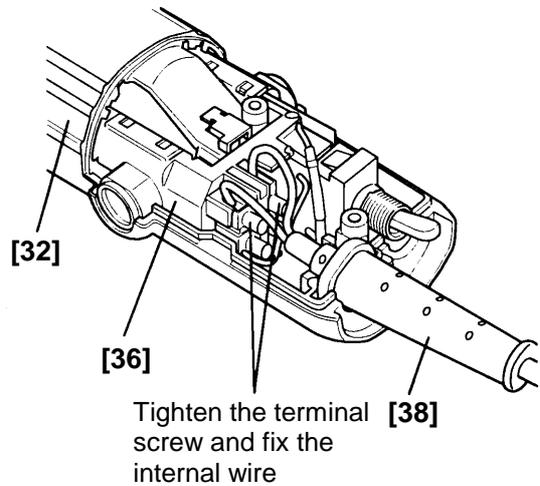

Fig. 8
- ② On completion of assembly, fix the Stator [11] into the Housing [32] with the two D4 x 65 Hex. Hd. Tapping Screws [10].
(4) Reassembly of the cord (Fig. 8)
- ① Insert the internal wire of the Cord [38] into the terminal of the Wiring Block [36].
- ② Tighten the terminal screw of the Wiring Block [36] and fix the internal wire of the Cord [38].